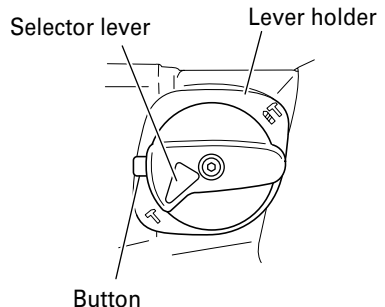

Fig. 7
- (1) Switching to "hammering"
- (b) Align ▲ of the selector lever and ⚡ of the lever holder as illustrated in Fig. 7.